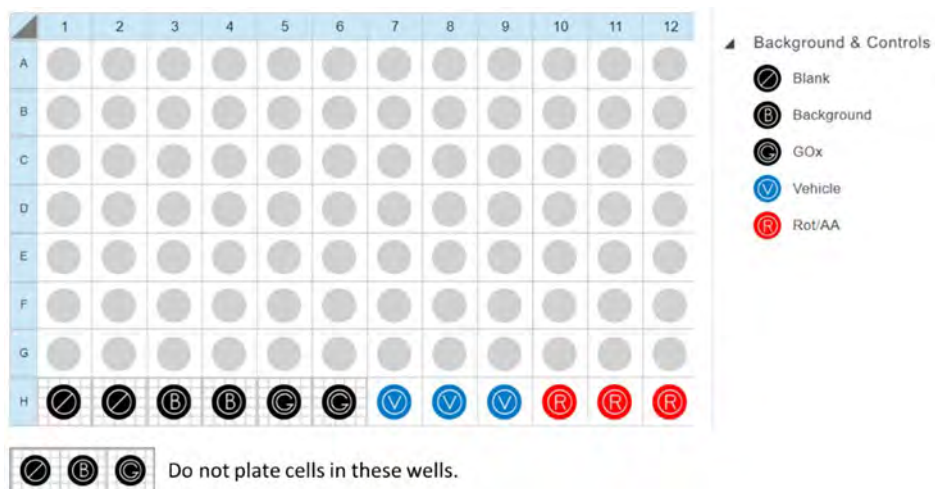

Figure 4. Recommended cell seeding layout using wells H1 to H6 as the cell-free control groups Background, Blank, and GOx.
- 2 Seed 100 μ L of cell suspension per well on the Agilent 96-well cell culture microplate provided in the kit using standard cell culture procedures. Do not seed cells in control wells assigned for Background, Blank and GOx. The recommended template uses wells H1 to H6 for no cell reference group as shown in Figure 4 and Table 4. Be sure to add medium only (no cells) in these wells.